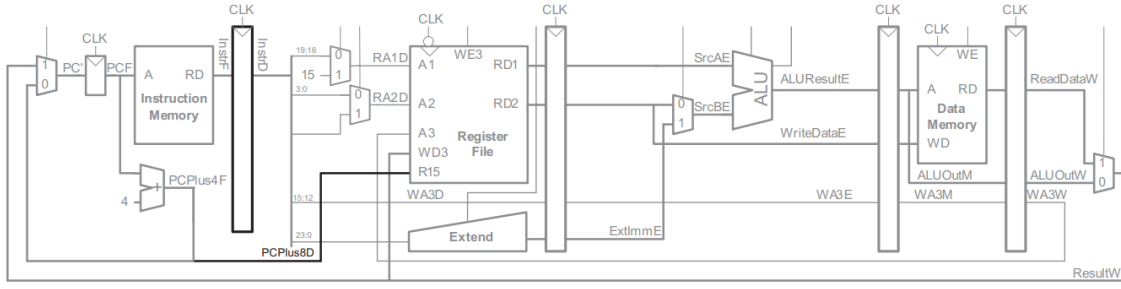

Figure 5: Optimized PC logic eliminating a register and adder
The datapath can also be simplified. The Program Counter (PC) increments by 4 over consecutive cycles. Thus, the **PCPlus4F** signal in the Fetch stage is logically equivalent to **PCPlus8D** in the Decode stage. Forwarding this signal eliminates the need for an expensive, redundant 32-bit adder (Figure 5).